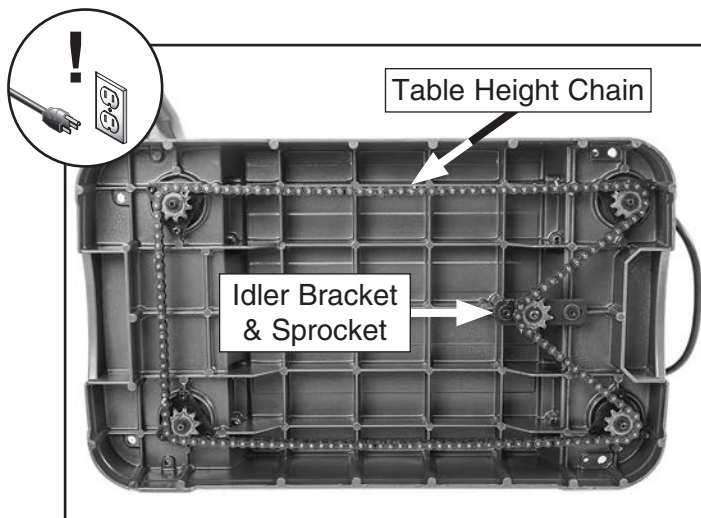

Figure 37. Idler bracket, sprocket, and chain (viewed from underneath planer).
3. Gently tilt machine onto its side (see **Figure 37**) to expose table height chain and sprockets.